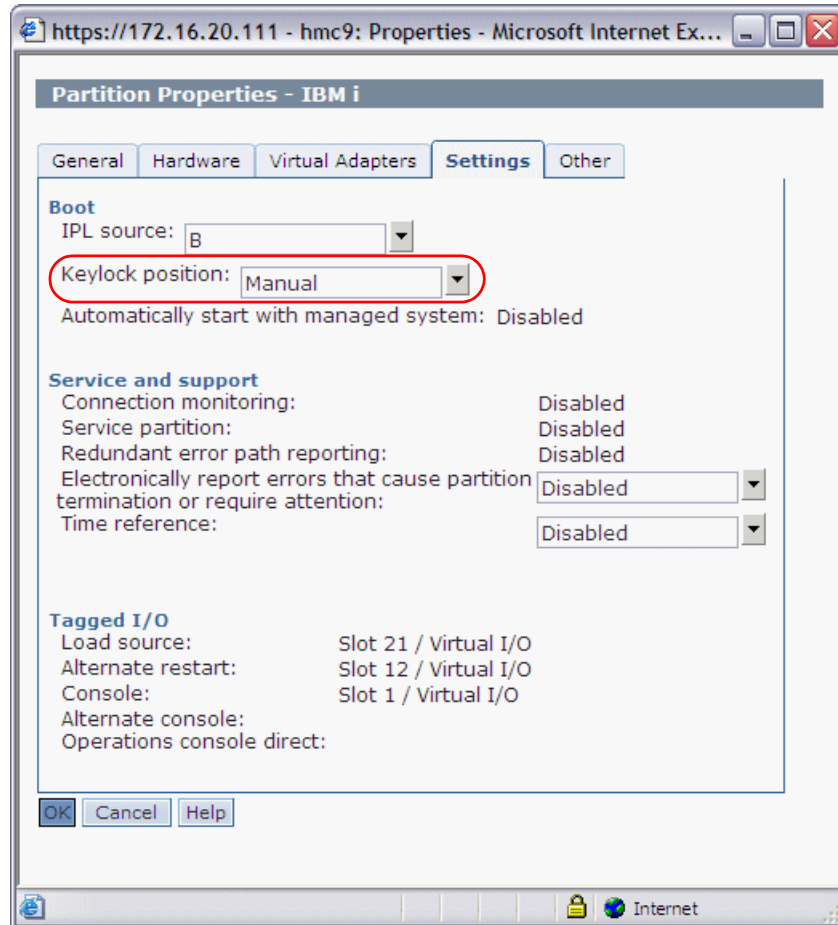

Figure 16-49 IBM i partition restart to DST using a manual IPL
7. To start IBM i mirrored protection for the system auxiliary storage pool (ASP 1) – or a user ASP 2 to ASP 32 – the IBM i client partition needs to be started to Dedicated Service Tools (DST). This requires a *manual* mode IPL, which we perform by ensuring the IBM i partition properties setting **Keylock position** is set to **manual** on the HMC as shown in Figure 16-49 before exiting from SST and using the PWRDWNSYS RESTART(*YES) CL command to restart the IBM i client partition to DST.